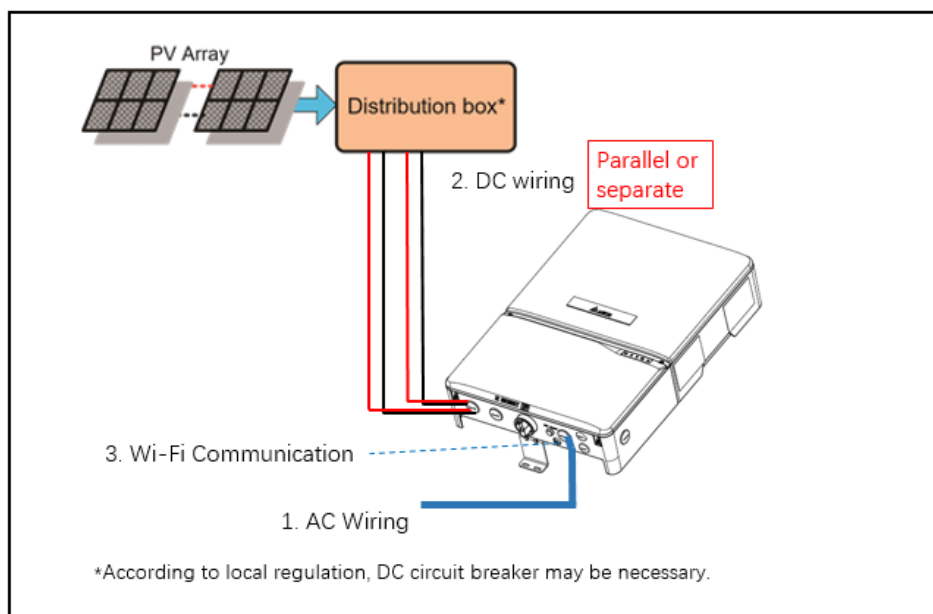

Figure 5-1: Connection of a system for floating solar array
- 4) Please refer to **Figure 5-1** for connections. Inverter can accept DC inputs in parallel.